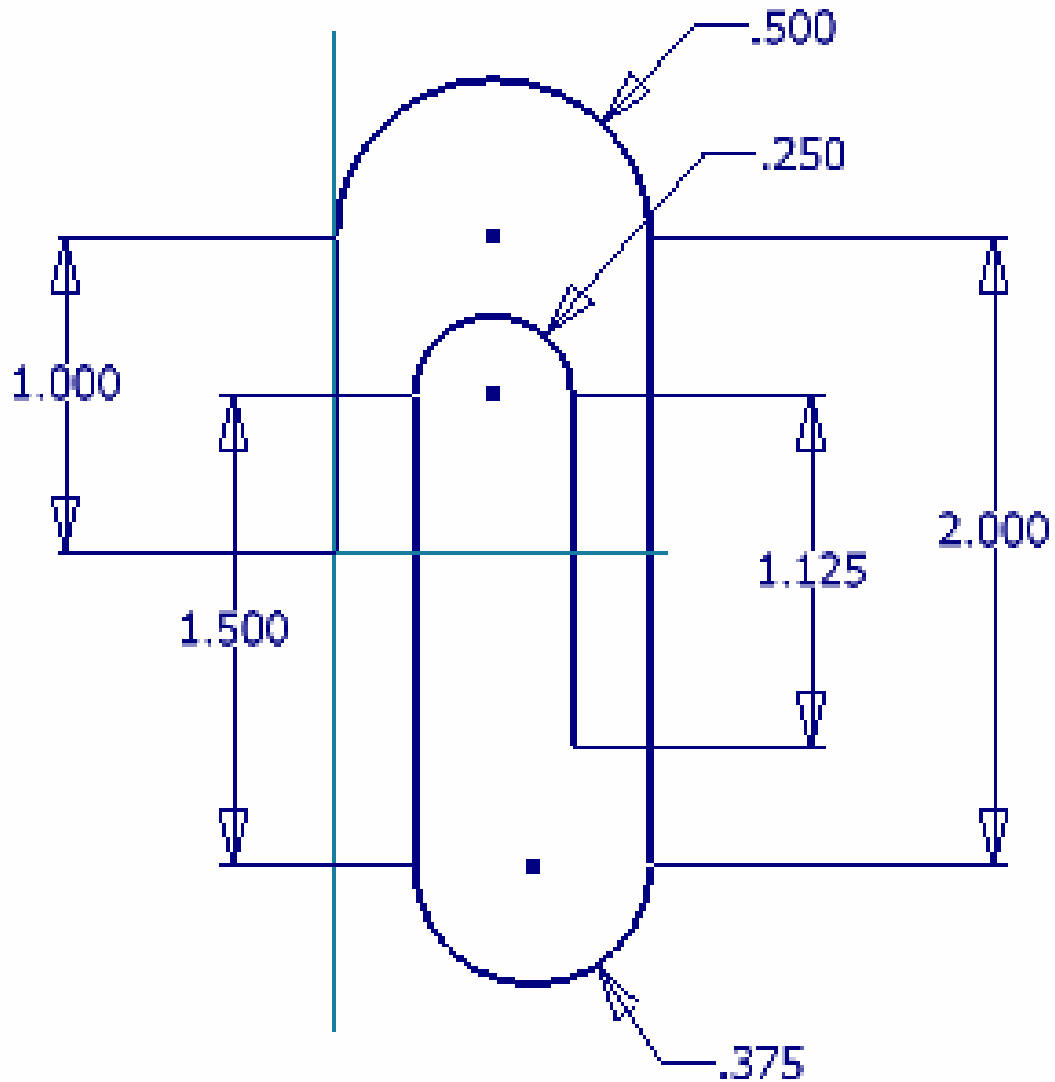

Figure 1
- ❑ Create the sketch of the paperclip. (Figure 1)